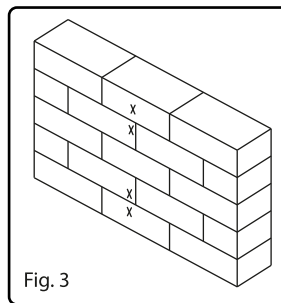

Fig. 3
2. While another person holds the mount in place, mark four locations (two at the top and two at the bottom) for securing the mount to the wall. (see Fig. 3)